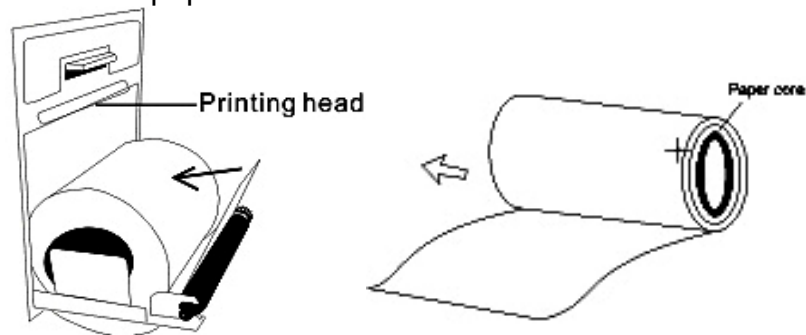

Fig.10
3. Place a new roll of paper into the paper cassette door with a few inches of paper being unrolled. And then push slightly the roll of paper to the paper cassette (refer to the Fig.10). Ensure proper orientation of paper roll.